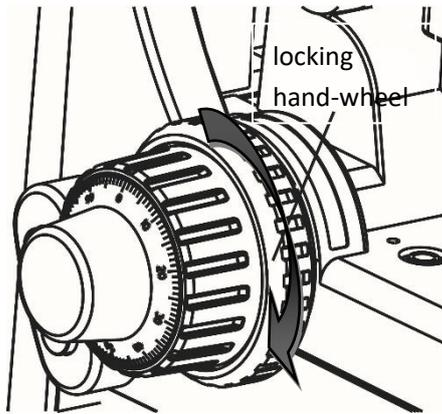

Fig.10
3-9 Focusing upper limit (Fig.10)
- Actually, if you want to restrict locking of stage height (The upper limit of focus) as appropriate, just turn the locking hand-wheel in the direction of the arrow (as shown in Fig.10) at the corresponding upper limit position.